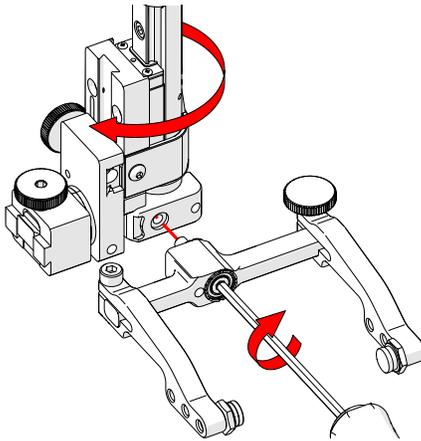

Fig. 143 - Screw yoke to opposite side
6. Mount the yoke to the opposite side of the base using the supplied 3 mm hex driver (Fig. 143).